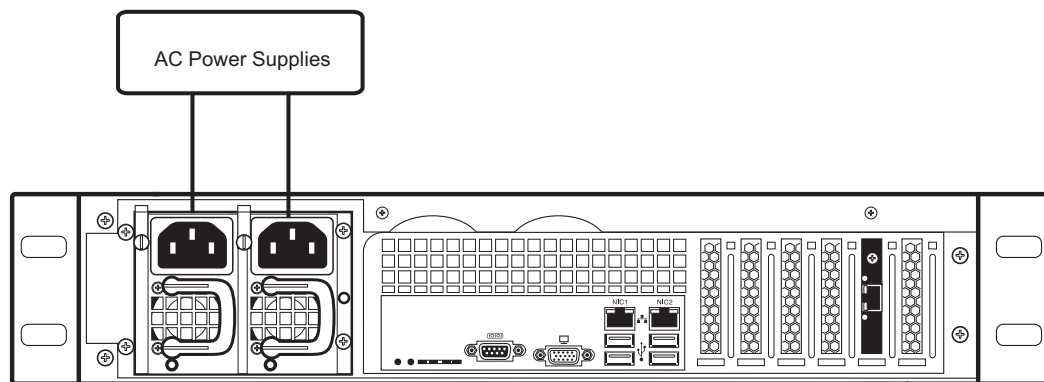

Figure 2.20 7800-CTRL AC Power Connections
1. Connect the first power connector of the 7800-CTRL to the first power source. See Figure 2.20.